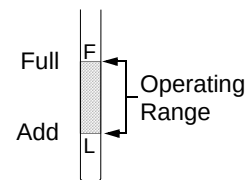

Figure 43
- Always keep the oil level between the 'F' (full) and the 'L' (add) marks on the dipstick. See Figure 43.
- SLOWLY pour oil into the crankcase until the oil level reaches the "FULL" mark on the dipstick. Refer to Figure 43.